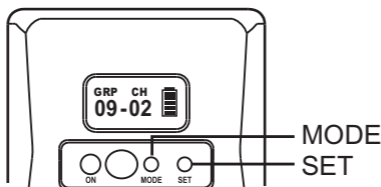

Fig. 7
2. Press SET button **9** once to denote a change. Existing parameter starts flashing. Press SET button second time to change the programmed parameters, Fig. 7.